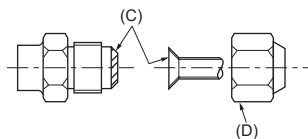

Fig. 4-2
4.2. Connecting pipes (Fig. 4-1) (Fig. 4-2)
- The indoor parts of the drain pipe should be wrapped with polyethylene foam insulation materials (specific gravity of 0.03, thickness of 9 mm, 23/64 inch or more). (Fig. 4-2)
- Apply thin layer of refrigerant oil to pipe and joint seating surface before tightening flare nut. (A)
- Use 2 wrenches to tighten piping connections. (B)
- Apply refrigerating machine oil over the entire flare seat surface. (C)
- Use the flare nuts for the following pipe size. (D)